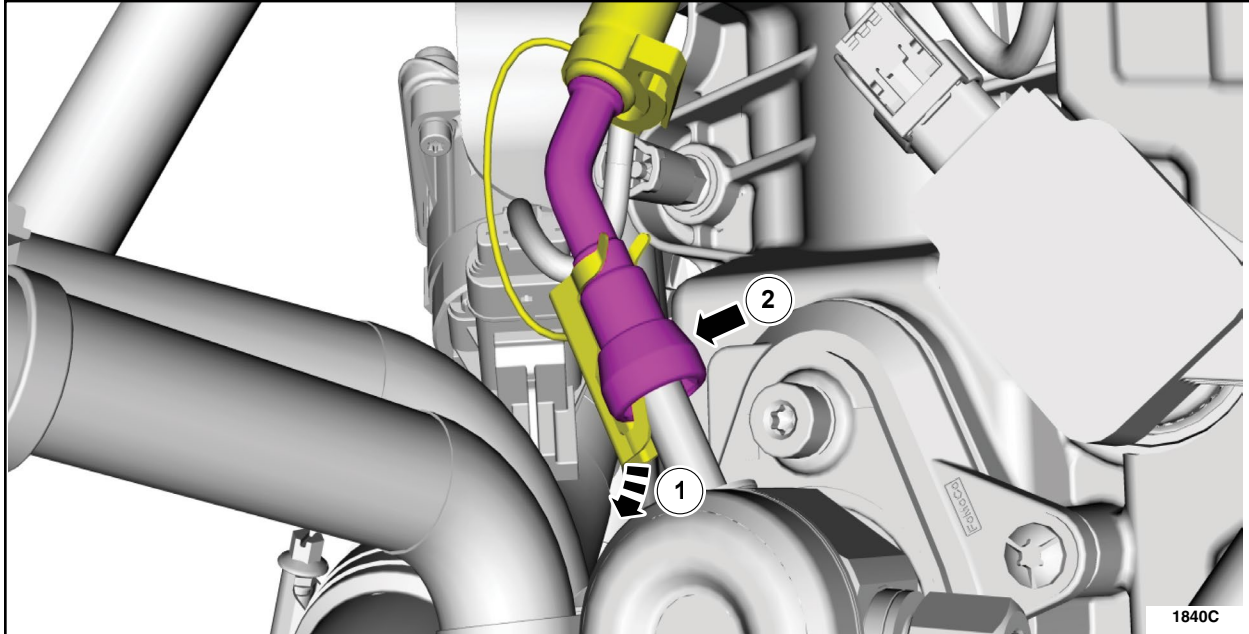

FIGURE 3
5. Disconnect the secondary latch and position out of the way. See Figure 3.
6. Disconnect the spring lock coupling and then disconnect the high-pressure fuel pump supply line. See Figure 3.